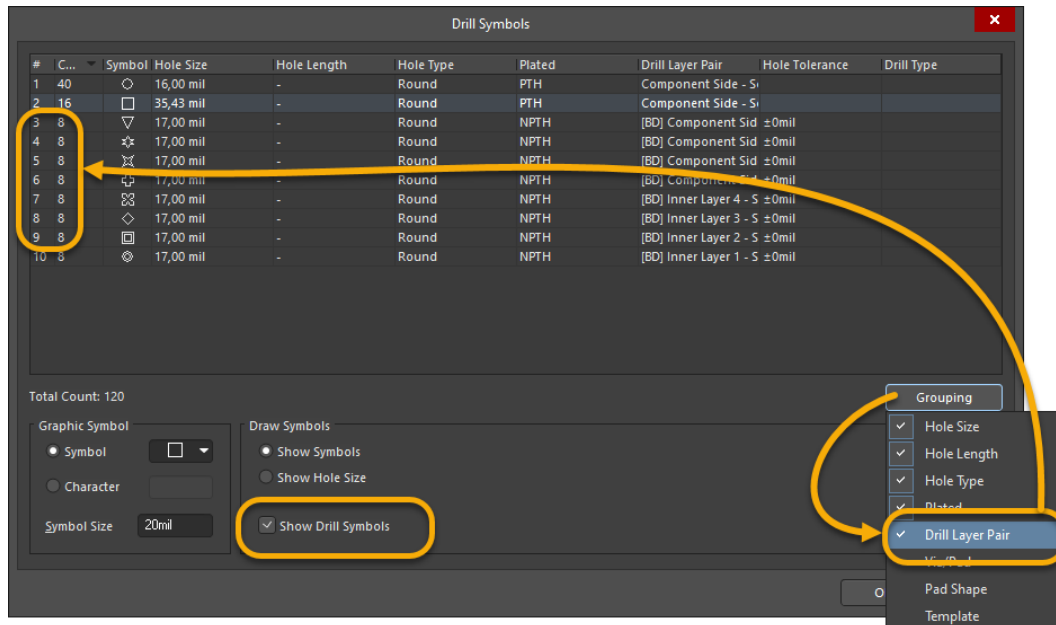

Figure 16. Open Drill Symbol configuration with option for visibility
31. If the table inside the *Drill Symbol* dialog doesn't show the information you expect, open the configuration **Grouping** to activate and deactivate grouping parameters. Use Figure 16 as reference.